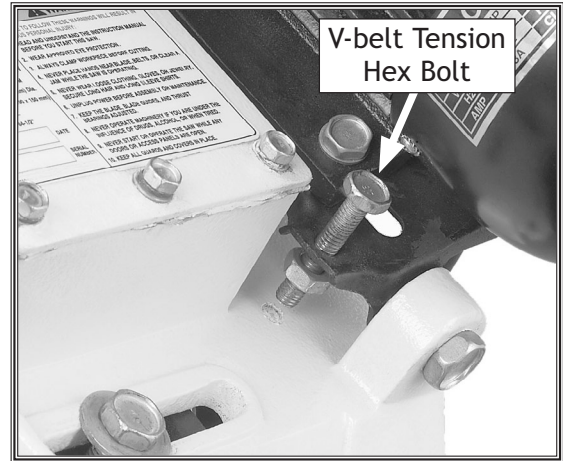

Figure 35. V-belt tension hex bolt.
2. Unthread the V-belt tension hex bolt to allow the motor to pivot (**Figure 35**).